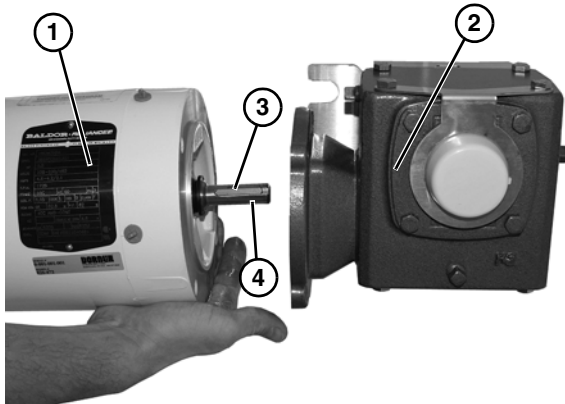

Figure 40
- Slide motor (**Figure 40, item 1**) off of gear reducer (**Figure 40, item 2**), and remove shaft key (**Figure 40, item 3**) from motor shaft (**Figure 40, item 4**).
- With key (**Figure 40, item 3**) in keyway on motor shaft (**Figure 40, item 4**), slide new motor (**Figure 40, item 1**) and gear reducer (**Figure 40, item 2**) together.